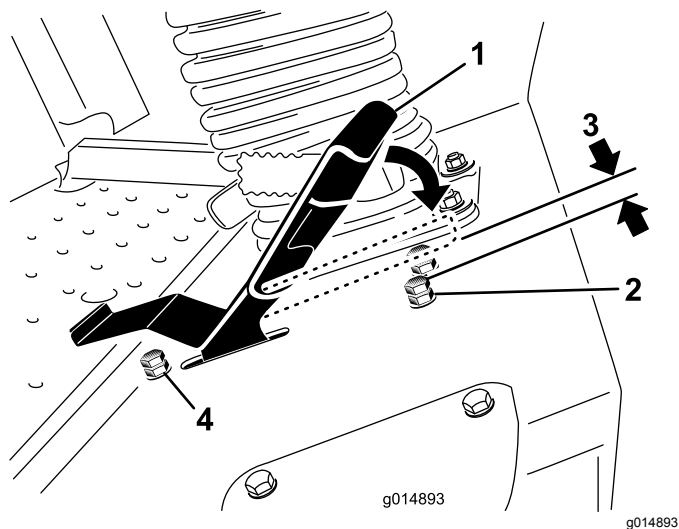

Figure 88
- Loosen the jam nut on the stop bolt for the traction pedal (Figure 88).